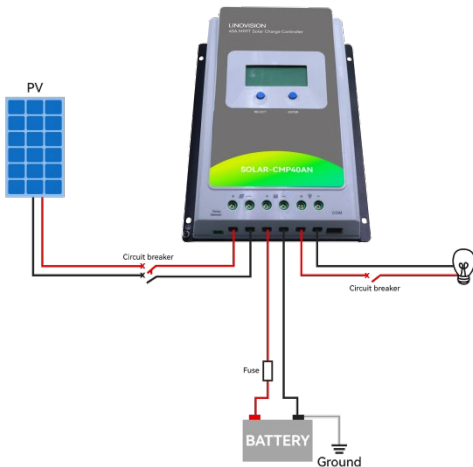

Figure 2-2 Schematic Wiring Diagram
Step 2: Connect the system in the order of battery  -- load  -- PV array  following Figure 2-2," Schematic Wiring Diagram," and disconnect the system in the reverse order.